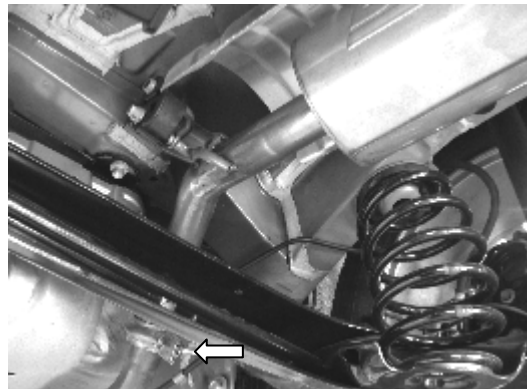

Figure 5
3. Using the original clamp and hardware, secure the flange shown in figure 5 just in front of the muffler assembly.